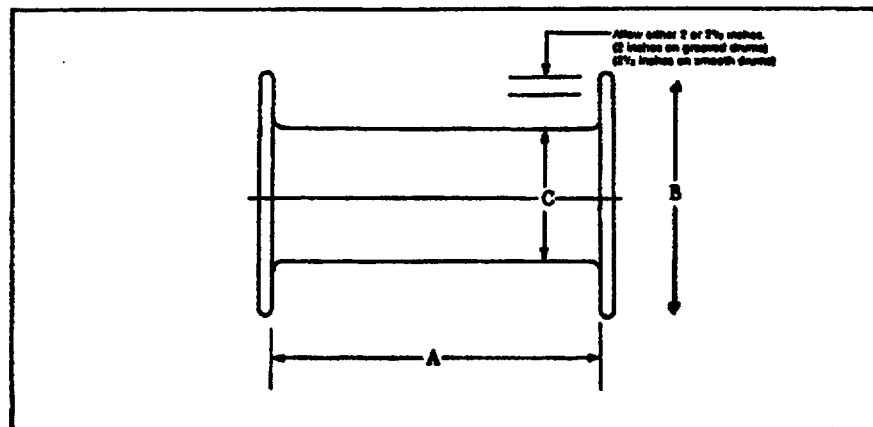

Fig. 2-12 Computing length of wire rope on reel
- c. The length of rope wound on a reel or drum can be determined from the following: Measure the depth of material (h) wound on the reel. Add this figure to the diameter (s) of the drum (hub). Multiply this sum by the depth (h), then multiply the product by the inside length (L) of the drum. Then multiply by a constant (K) for the respective size of rope. The result (X) will be the length of rope on the reel. All of the measurements are in inches and the length of the rope will be in feet. (See **Figure 2-12.**)
- (1) Determine if the rope will be overwound or underwound. Will it come off the top or bottom of the drum?
- (2) Imagine being behind the drum.
- (3) For right lay rope, make a fist with your right hand to simulate the drum, and extend your forefinger to simulate the rope. If the rope is overwound the back of the hand must be up so the forefinger "comes off the top of the drum" just like the rope. If the rope is underwound the palm would be up so the forefinger "comes off the bottom of the drum" like the rope.
- (4) With your hand in the correct position extend your thumb. The thumb points to the side where the anchoring must be done.